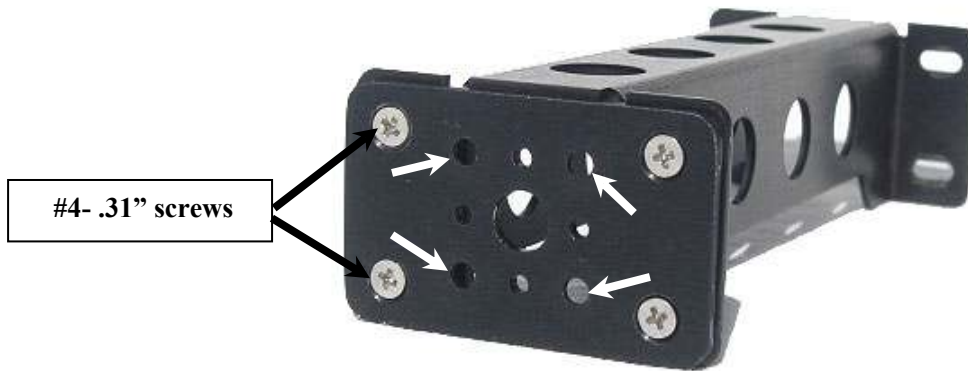

Figure 66
1. Using (4) #4 – .31” countersink screws and lock nuts, install the single axis adapter plate to the girder as shown in figure 66.
2. Using (4) #4-.31 countersink screws and lock nuts, install the RX/MX 28 angle bracket to the single axis adapter plate using the holes outlined in figure 66. Tighten the screws just enough so that the assembly can be adjusted in the next step (figure 67).